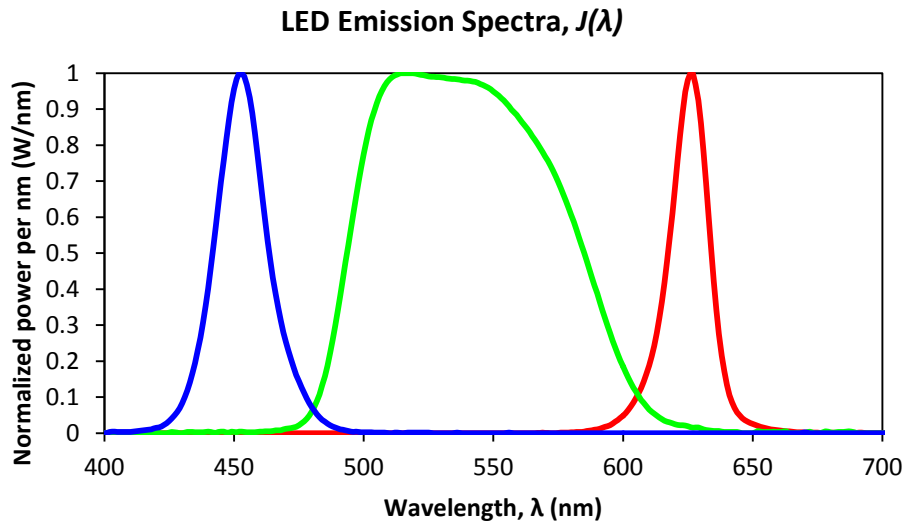

Figure 12: $J(\lambda)$ = Red, Green, and Blue LED emission spectra after dichroic filters
- $\eta(\lambda)$ is the CIE luminous efficacy curve that converts radiant flux (watts) to luminous flux (lumens) (Figure 12)